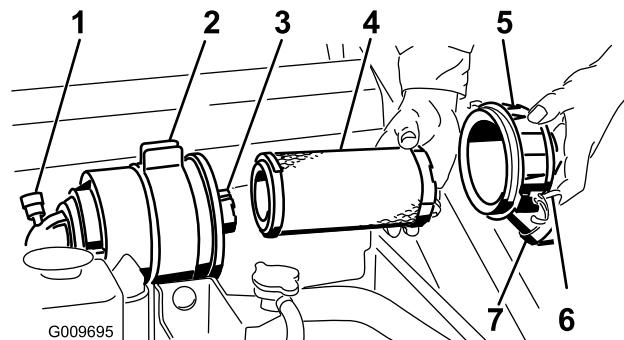

Figure 32
**Important:** Service the air cleaner filter only when the service indicator shows red (Figure 32). Changing the air filter before it is necessary only increases the chance of dirt entering the engine when the filter is removed.
4. Release the latches on the air cleaner and pull the air cleaner cover off of the air cleaner body (Figure 32).
1. Gently slide the primary filter out of the air cleaner body (Figure 32). Avoid knocking the filter into the side of the body.
4. If you are replacing the safety filter, carefully slide the new filter into the filter body (Figure 32).
5. Carefully slide the primary filter over the safety filter (Figure 32). Ensure that it is fully seated by pushing on the outer rim of the filter while installing it.
6. Install the air cleaner cover with the side indicated as UP facing up and secure the latches (Figure 32).